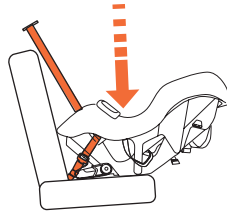

Fig. 25a
- Use body weight or apply weight in seat with hand to compress the vehicle seat cushion then insert the seat buckle tongue into the buckle and pull seat belt tight as possible (Fig. 25a). Pull excess webbing at buckle tongue to tighten.